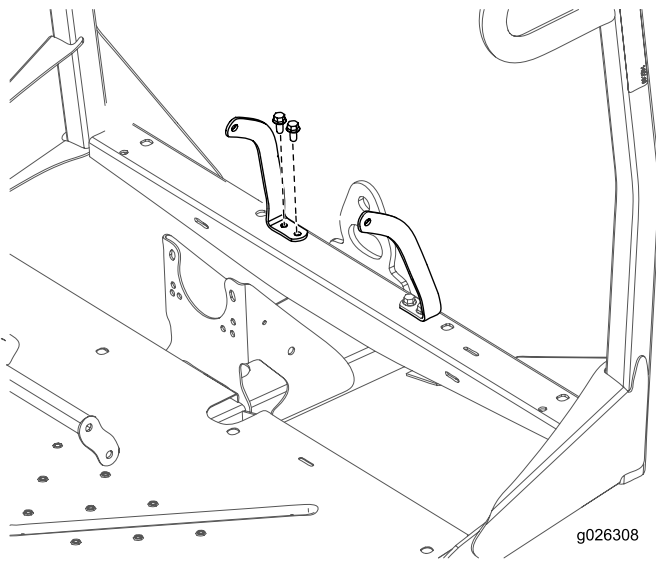

Figure 8
5. Secure the left and right seat-belt anchor to the front frame with 4 bolts (3/8 x 3/4 inch) and 4 nuts (3/8 inch) as shown in Figure 8.